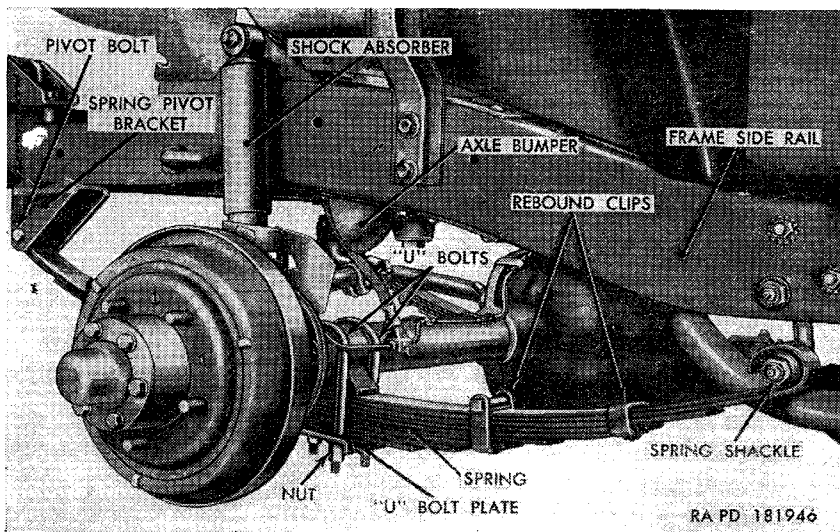
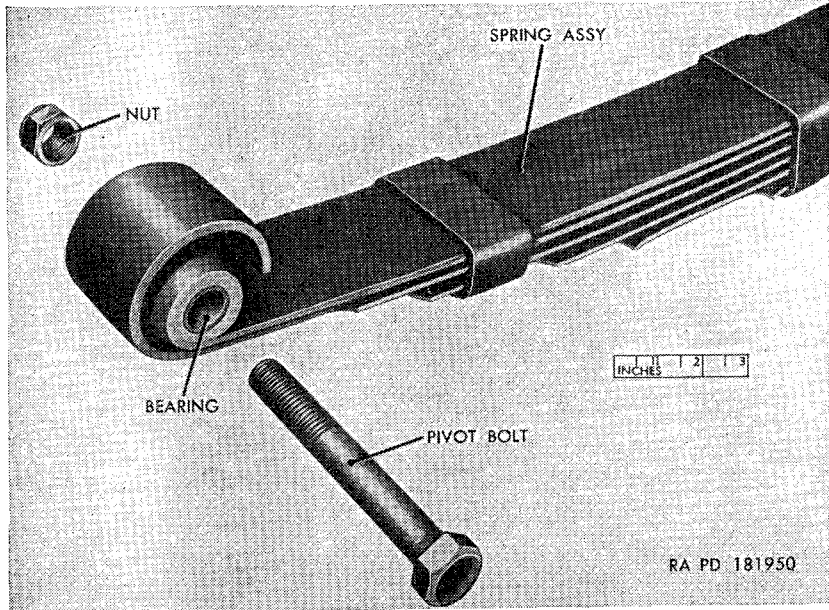

Figure 164. Front spring assembly and shock absorber—installed—wheel removed.
Figure 168. Pivot bolt end of spring—exploded view pivot bolt and nut removed.
*a. Description.* Both the front and rear spring assemblies (figs. 164 and 165) are of the semielliptic-type with wrapped eyes on the two top leaves. The front spring is a 12 leaf spring and the rear spring is a 13 leaf spring. One center bolt and six rebound clips secure the spring leaves of each spring assembly. Each spring assembly is suspended lengthwise from the frame by a shackle at the rear and a pivot bolt at the front. The pivot bolts ride in bushing-type eye bearings while the shackles are mounted in internally and externally threaded bushing-type shackle bearings. U-Bolts secure each spring assembly to its respective axle. Four hydraulic, double-action shock absorbers are used to control the spring action when flexing. The shock absorbers, mounted to the frame and U-bolt plates, are nonadjustable and nonrefillable.
*Note.* The left-hand thread on the bushing-type shackle bearing is identified by a groove in its hexagon head. The left-hand thread on the shackle is identified by a boss on the shoulder of the shackle at the base of the thread. See Note in *a* (3) above for correct location.
- (1) Slip a grease seal retainer and a grease seal over each of the shackle threads, with the cupped side of the retainers toward the shackle ends.
- (2) Insert the shackle ends into the inner side of the spring assembly and the inner side of the frame side rail (for front spring) (fig. 164) or spring shackle bracket (for rear spring) (fig. 165) and push the shackle in until the ends are almost protruding from the spring eye and frame side rail or spring bracket.
- (1) Slip a grease seal retainer and a grease seal in the order named over each of the shackle threaded parts. Start the small inside diameter of the retainers on the shackle.
- (2) Insert the shackle ends into the inner side of the spring assembly and the inner side of the frame side rail (for front spring (fig. 164)) or the spring bracket (for the rear spring (fig. 165)) and push the shackle in until the ends are almost protruding from the spring eye and frame side rail or spring bracket.
- (3) Insert the bushing-type shackle bearings into the spring eye and frame side rail or bracket and start the bearings onto the shackle before the bearings start threading into the eye or frame side rail or spring bracket. Take up on both bearings equally until they are tight. Back off the lower bearing about one thirty-second inch (one-third of a turn).
- (4) Place a grease seal over the hex head of each bearing. Slide the side plate over the shackle ends and secure with two nuts. Install the lubrication fittings in the shackle end.
- (5) Raise the axle assembly with the jack until the upper end of the link between the U-bolt plate and the stabilizer bar enters the hole in the bar end. Install a grommet and a cup washer over the link end. Secure the link grommet and washer to the bar with a nut and cotter pin.
- (2) Raise the vehicle frame until both tires clear the ground. Using safety stands or suitable blocking, support the vehicle weight. Place a jack under the axle housing and adjust the jack height, as necessary, to take the tension off the spring.
- (3) Unscrew the safety nut (fig. 168) from the pivot bolt. Withdraw the bolt from the spring pivot bracket and the bushing-type eye bearing in the spring eye. It may be necessary to drive the bolt out of the eye bearing with a suitable drift pin.
- (1) Adjust the jack height beneath the axle housing, as necessary, to aline the hole in the bushing-type eye bearing in the spring eye with the holes in the spring pivot bracket (figs. 164 and 165). Insert the 7/16 x 3 pivot bolt (fig. 168) through
- (1) Remove the spring shackle (par. 242a).
- (2) Remove the pivot bolt (par. 244a(3)).
- (3) While supporting the spring assembly, remove the four **U**-bolt nuts (figs. 164 and 165) and lockwashers securing the two **U**-bolts to the **U**-bolt plate and remove the plate from beneath the spring. Lift the **U**-bolts off the axle housing. Remove the spring assembly from beneath the vehicle.